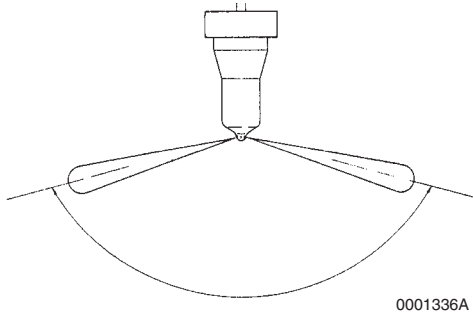

Figure 7-49
- Pump the operating lever more rapidly to repeatedly “pop” the injector and observe the spray pattern. The pattern should be a very fine uniform spray (**Figure 7-49**). If a dripping or an uneven pattern is seen (**Figure 7-50**), service or replace the injector.